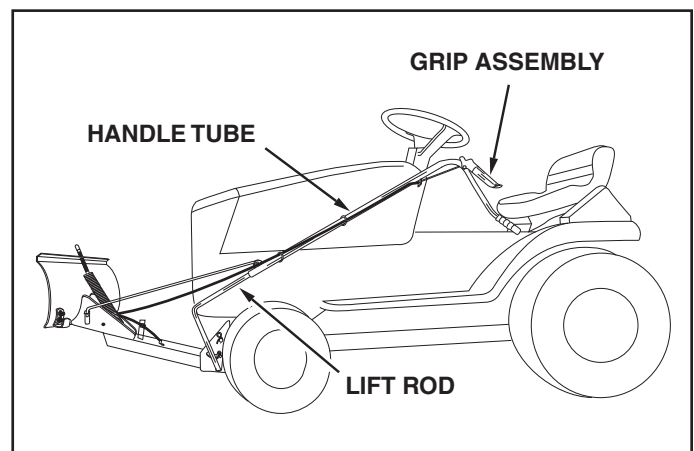

FIGURE 22
- Raise the blade to transport position. To unlock the blade, push the grip assembly down against the handle tube. To pivot the blade, keep the grip depressed and push forward or pull back on the handle tube, sliding it along the lift rod. Release the grip to lock the blade when it is in either the right hand, the left hand or the straight ahead position. See figure 22.